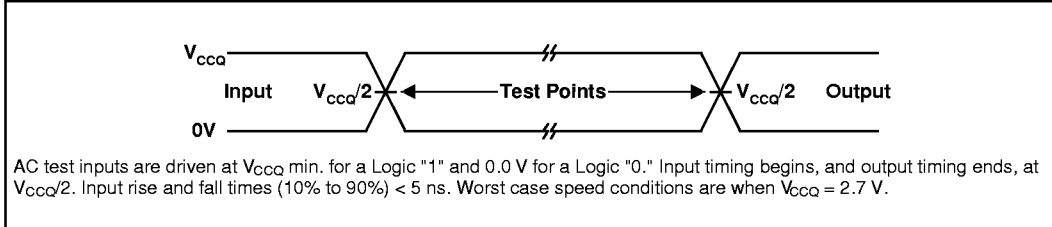

Figure 13. AC Input/Output Reference Waveform for $V_{CC} = 2.7\text{ V}–3.6\text{ V}$
1. See *AC Input/Output Reference Waveform*, (figure 13), for timing measurements and maximum allowable input slew rate.